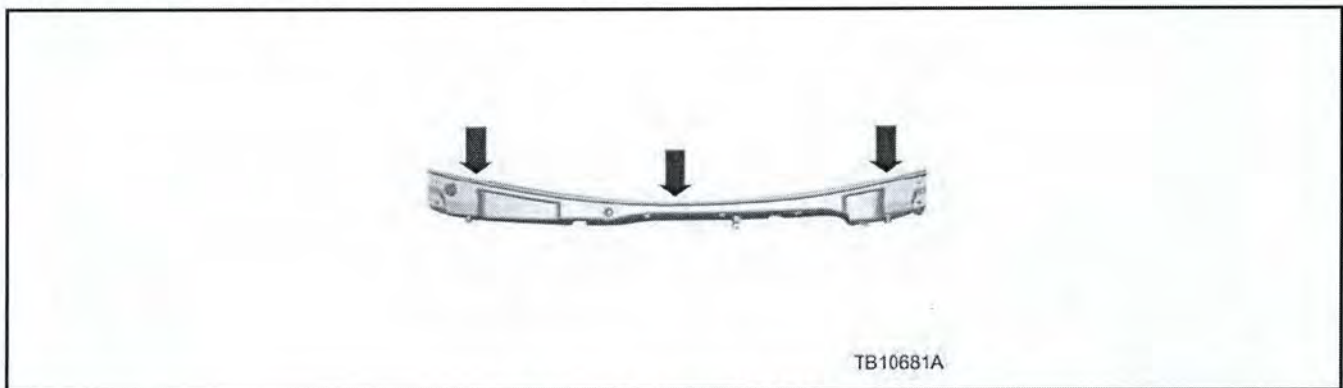

Figure 1 - Article 15-0118
4. Apply a foam tape strip along the back of the cowl panel grille. (Figure 1)